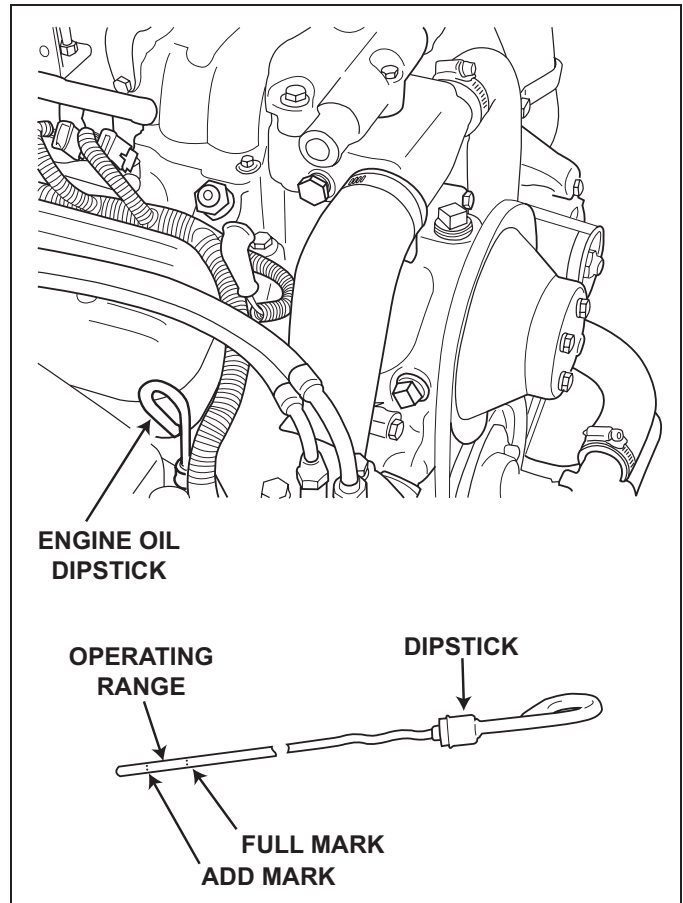

Figure 11-1 Engine Oil Dipstick (Typical)
3. In order to obtain an accurate reading, wait two minutes for the oil to stabilize on the dipstick. Remove the dipstick and observe the oil level. The oil level must be between the "FULL" and "ADD" marks. If the oil level is below the "ADD" mark, add specified oil to bring the level up to, but not over, the "FULL" mark on the dipstick. If the oil level is above the "FULL" mark on the dipstick, remove the excess oil. (Figure 11-1)